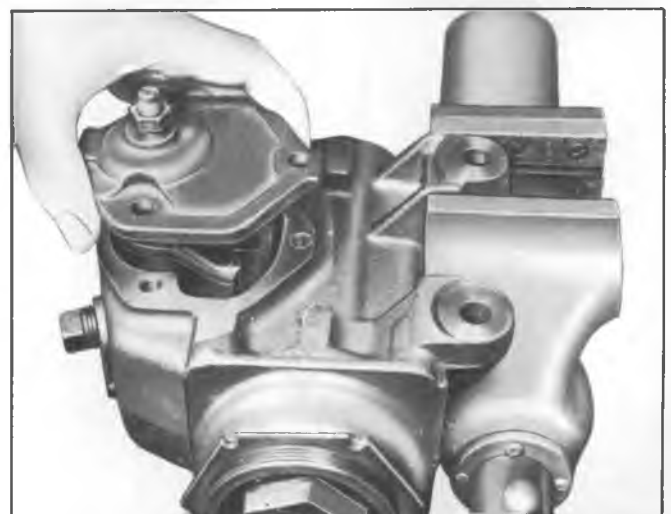

Fig. 4—Removing Pitman Shaft Assembly—Typical
6. Tap lightly on the end of the pitman shaft with a plastic hammer and lift the side cover and pitman shaft assembly from the gear housing (fig. 4).